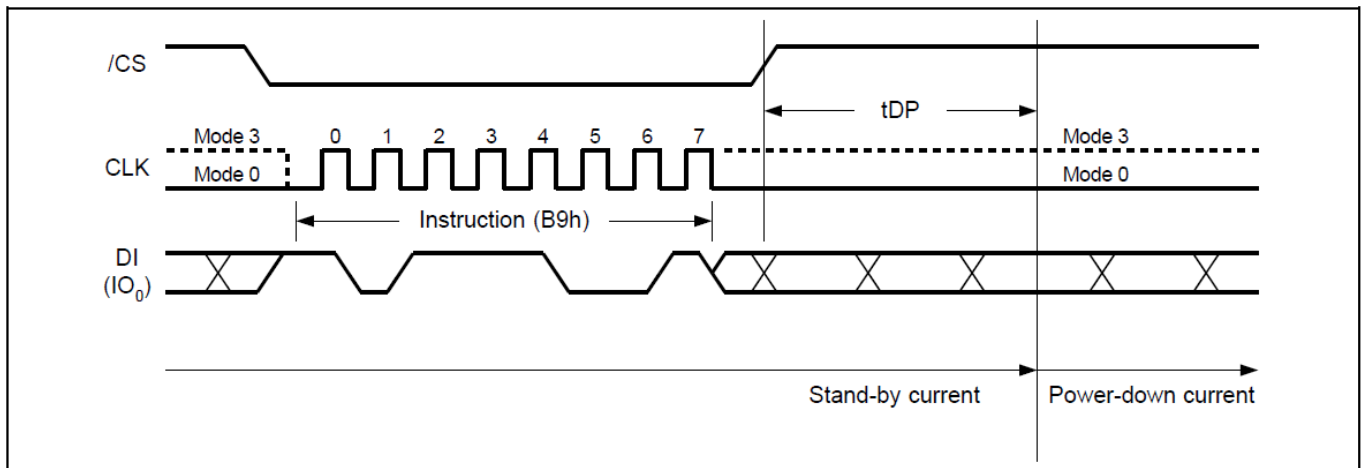

Figure19. Deep Power-Down Sequence Diagram
The Deep Power-Down Mode automatically stops at Power-Down, and the device always in the Standby Mode after Power-Up. The Deep Power-Down command sequence: CS# goes low → sending Deep Power-Down command → CS# goes high. The command sequence is shown in Figure19. CS# must be driven high after the eighth bit of the command code has been latched in; otherwise the Deep Power-Down (DP) command is not executed. As soon as CS# is driven high, it requires a delay of  $t_{DP}$  before the supply current is reduced to ICC2 and the Deep Power-Down Mode is entered. Any Deep Power-Down (DP) command, while an Erase, Program or Write cycle is in progress, is rejected without having any effects on the cycle that is in progress.